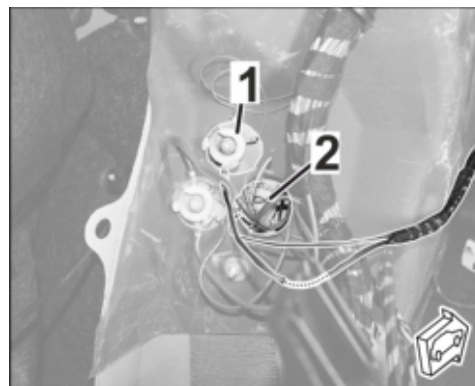

Figure 7
- Brown (6 mm2) on MPB 43 ⇒ *Figure 7 -1-*
- Brown (2.5 mm2) on MPS 43 ⇒ *Figure 7 -2-*